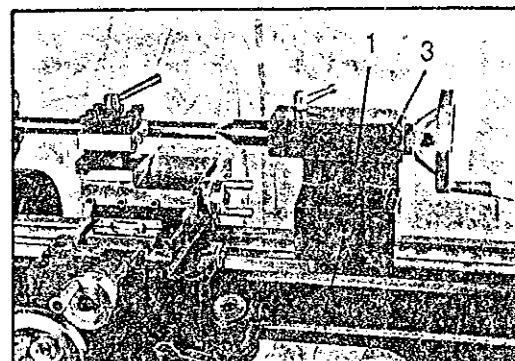

Fig. 17
Work to a side angle of 5° can be turned by off-setting the tailstock. The angle depends on the length of the workpiece. (Fig. 17)
To off-set the tailstock, loosen locking screw (1, Fig. 17). Loosen the front adjusting screw (2) and take up the same amount by tightening the rear adjusting screw (3) until the desired taper has been reached. Tighten the front screw to lock the tailstock in position. The workpiece must be held between centers and driven by a face plate and driver dog.